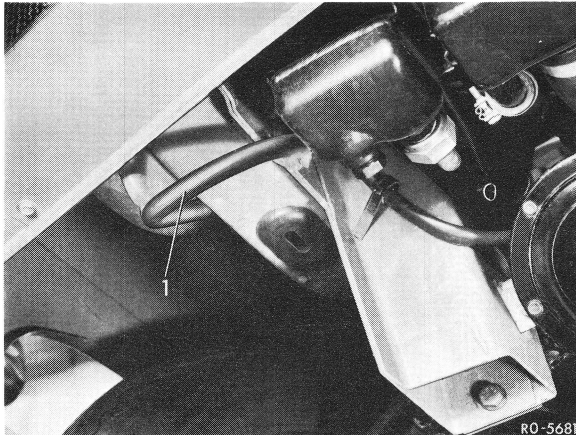

Fig. 1
The vehicle can be towed or tow-started by means of the eye (1) at front of frame side member (Fig. 1).